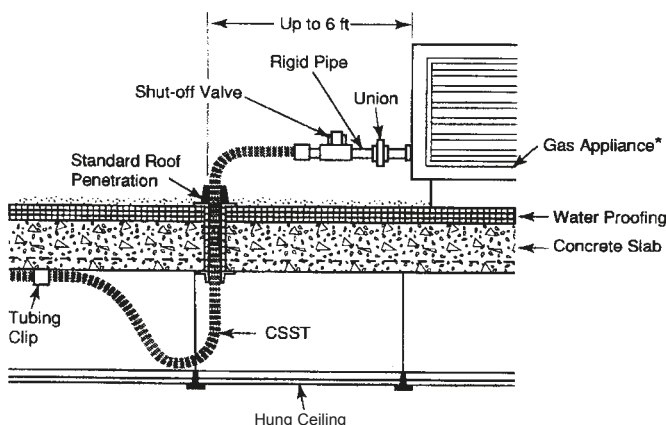

Figure 4-16 Short (1-6 foot) outdoor connection to roof mounted equipment
2. No special mechanical protection of the piping is required for connection to roof top equipment. Whenever possible, roof penetrations shall be located within 6 feet of the equipment to be connected as shown in Figure: 4-16. Long runs of tubing shall be supported with non-metallic blocks at